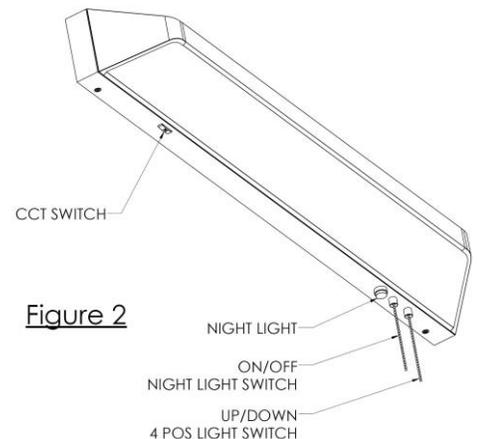

Figure 2
- Connect the white wire from the fixture to the white (N) wire from the supply power source.
- Connect the black wire from the fixture to the black (L) wire from the supply power source.
- Install the fixture (3) to the mounting bracket (1) using four screws (4) to secure it.
**Step 6 – Operation (Figure 2)**